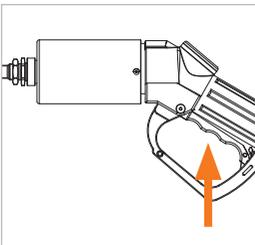

Figure 11
- ▶ Pull the actuation lever (Pos. 6) on the hand grip (Pos. 7) of the fueling nozzle fully up to its ON position (Figure 11) until it engages with an audible click.